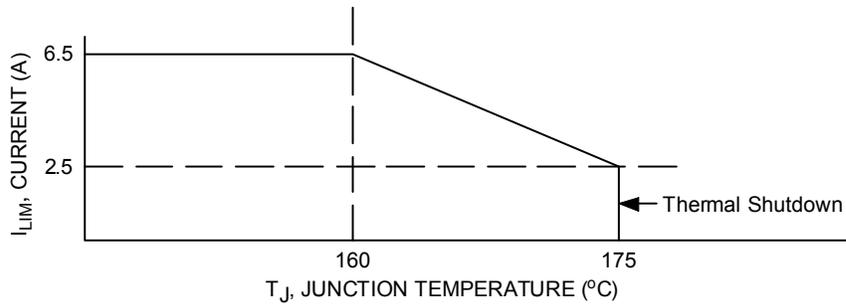
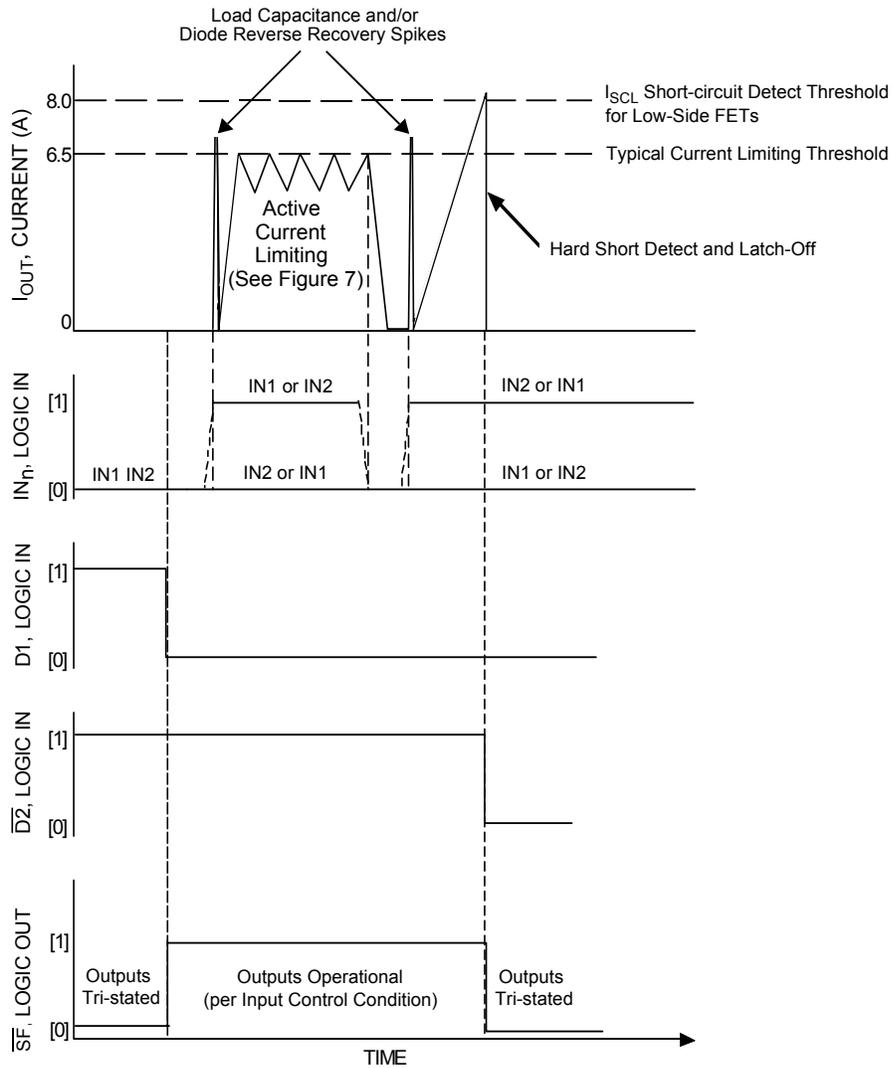

Figure 7. Active Current Limiting Versus Temperature (Typical)
Figure 8. Active Current Limiting Versus Time
26. Increasing currents will become limited at I_{LIM} . Hard shorts will breach the I_{SCH} or I_{SCL} limit, forcing the output into an immediate tri-state latch-OFF. See Figures 8 and 9, page 9. Active current limiting will cause junction temperatures to rise. A junction temperature above 160°C will cause the active current limiting to progressively “fold-back” (or decrease) to 2.5 A typical at 175°C where thermal latch-OFF will occur. See Figure 7, page 8.
The current limiting threshold value is dependent upon the device junction temperature. When $-40\text{ }^\circ\text{C} < T_J < 160\text{ }^\circ\text{C}$, I_{LIM} is between 5.2 A and 7.8 A. When T_J exceeds $160\text{ }^\circ\text{C}$, the I_{LIM} current decreases linearly down to 2.5 A typical at $175\text{ }^\circ\text{C}$. Above $175\text{ }^\circ\text{C}$ the device over-temperature circuit detects T_{LIM} and over-temperature shutdown occurs (see Figure 7, page 8). This feature allows the device to remain